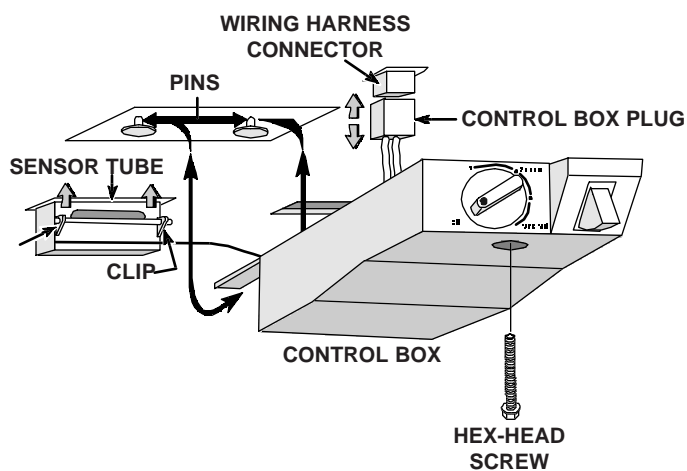

Fig. 47
2. Remove the hex-head screw for the front of the control box. (Fig. 47)